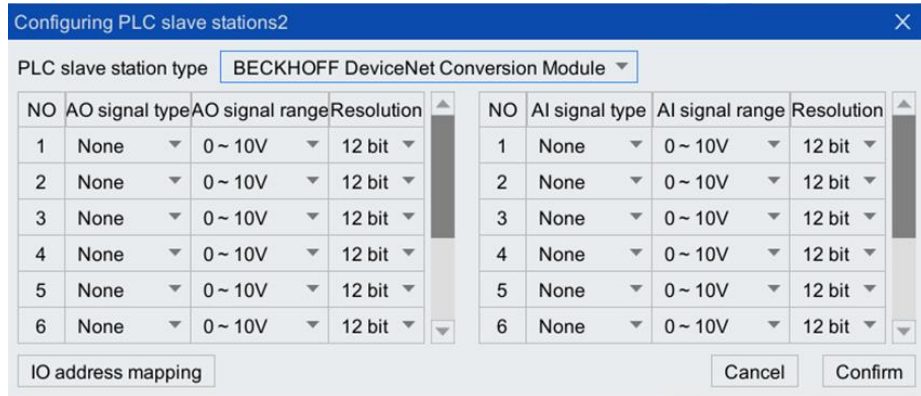

Figure2-13 Configuration interface of PLC slave
Step3. In the pop-up dialog box, select "PLC Slave station Type", as shown in Figure2-13. The conversion modules that are related to the welding machine are BECKHOFF DeviceNet conversion module, MFDB (first-generation control cabinet gusset digital welding machine CAN communication, analog welding machine communication) and IEB (second-generation control cabinet gusset CAN communication, analog welding machine communication).